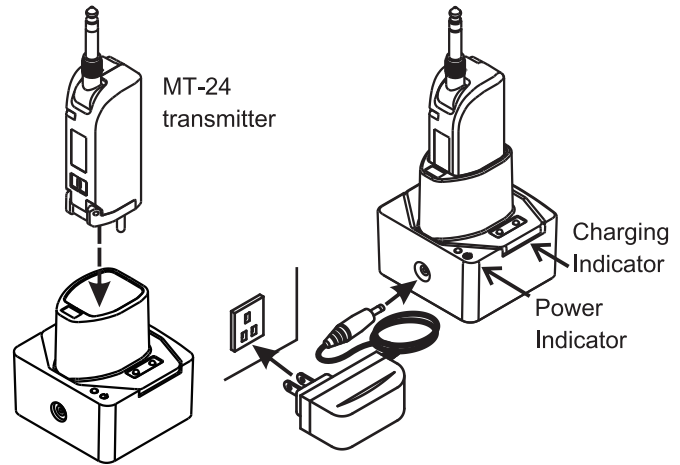

Fig. 34
- (A) Insert MT-24 transmitter into the charger. Ascertain the charging contacts are aligned with correct polarity.
- (B) Plug-in both ends as shown in Fig. 34.